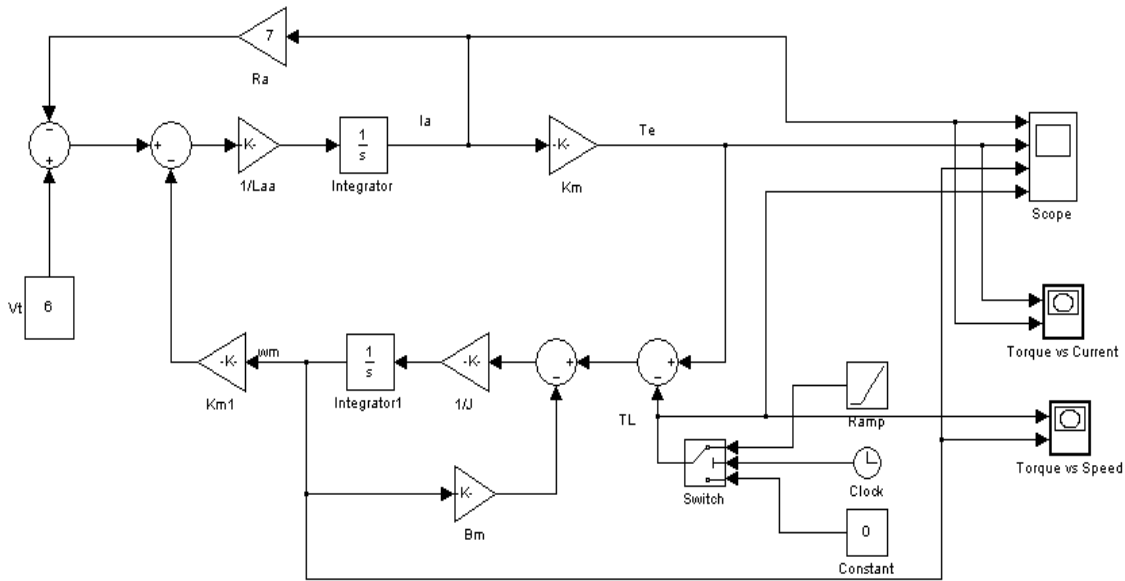
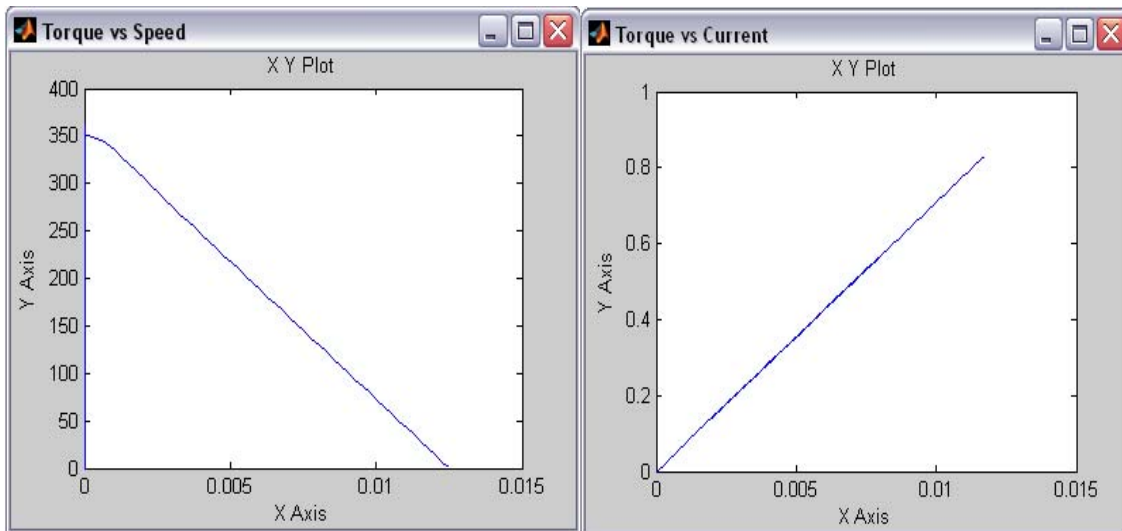

Fig. 6 Simulation diagram of permanent-magnet dc machine with load torque showing XY Plots.
Fig. 7 XY plots of torque vs. speed and torque vs current.
6. Drag the two block **XY graph** from the sinks library. Connect the electromagnetic torque ( $T_e$ ) to X input and the speed ( $\omega_m$ ) to Y input of the first graph . Change the X settings to 0 and 0.01 and the y settings to 0 and 400. similarly connect the load torque ( $T_L$ ) to X input and armature current to the Y input of the second graph. Change the X settings to 0 and 0.01 and the Y settings (y-max) to 1. With the XY graphs the block diagram is as shown in fig. 6. The plot are as shown in fig. 7 .